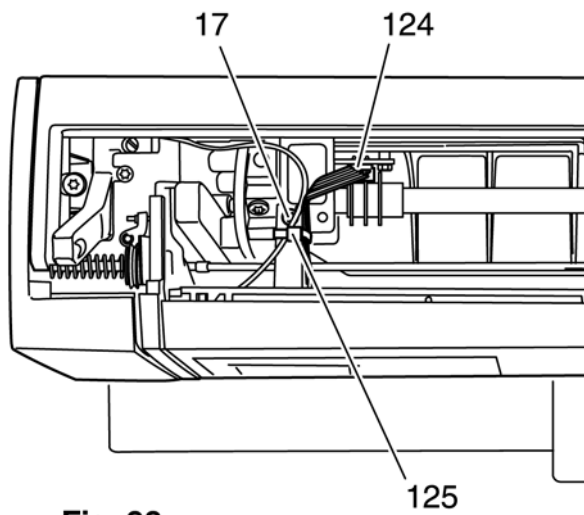

Fig. 98
- Unscrew and remove screw 17 on the housing (fig. 98).
- Secure the cable with cable tie 125 on the bar of the front housing panel (fig. 98).